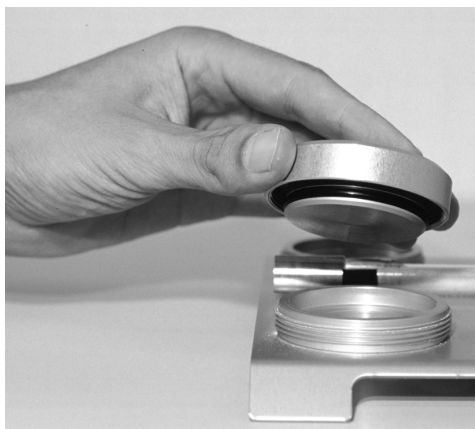

Figure 2.1 Press the transit cover on a chamber holder
1. Take the calibrator out of the box. Open the transit cover of the chamber. Remove the measurement cover from the chamber holder and press the transit cover on the holder (see Figure 2.1).